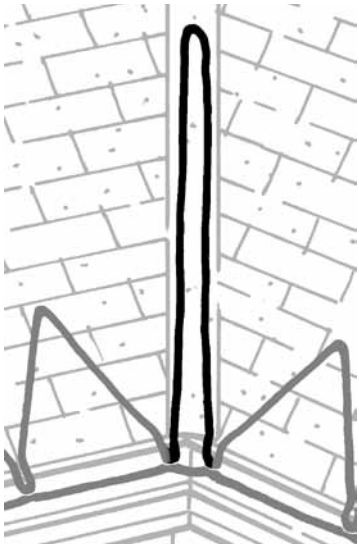

Figure 6. Cable pattern in a valley
- Pattern for valleys:** If a valley exists in a problem area of your roof, you must route cable up and back down the valley a minimum of 3 feet, as shown in Figure 6. Extend the cable higher if the warm area of your roof is higher.